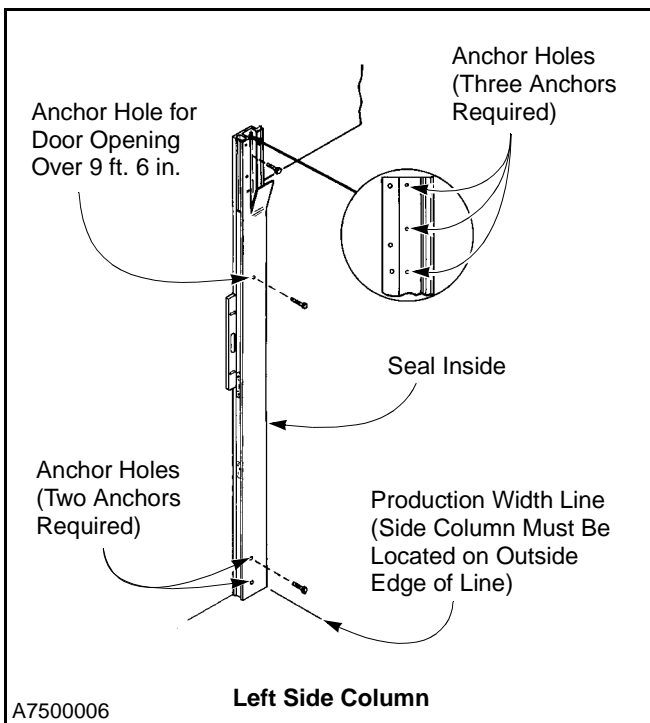

Figure 16
- Stand the pullout/side column assembly on the floor, with it tight against the wall. Align the inside edge of the side column with the production width line laid out earlier on the floor. The side column must be located on the outside edge of the layout line. (See Figure 16.)